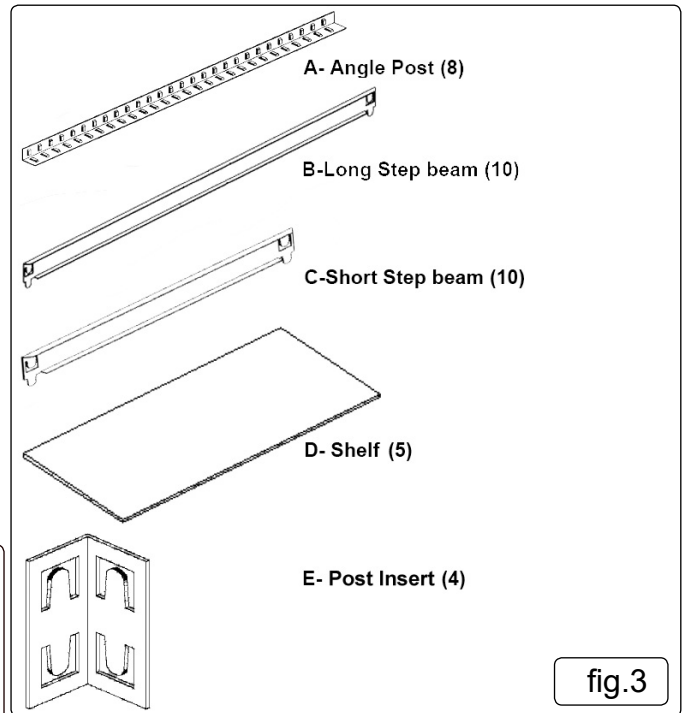

fig.3
- 4.1. Carefully unpack the product and check the contents as detailed in Fig.3. Should any items be missing or damaged contact your Sealey Stockist.